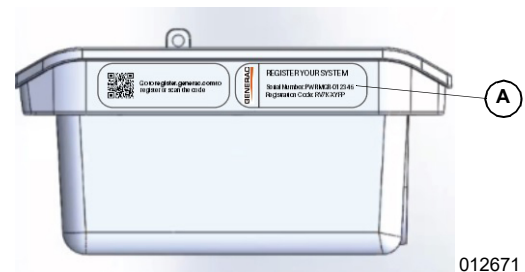

Figure 4-15. Serial Number Location
See Figure 4-15. The product label (A), containing the serial number, is found on the right side flange of the of the PWRmanager.